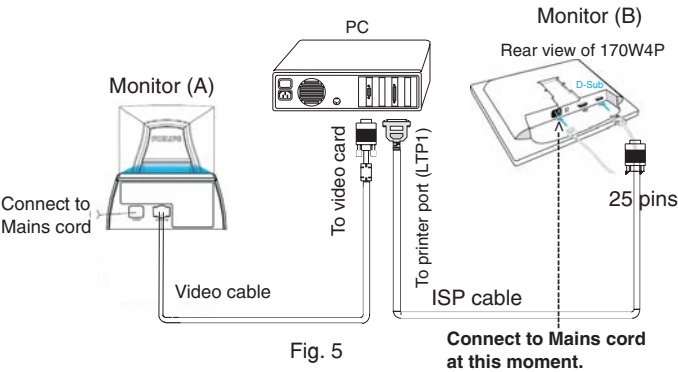

Fig. 5
Step 4 : Connect ISP cable and Mains cord to Monitor (B, 170W4) as shown in Fig. 5.